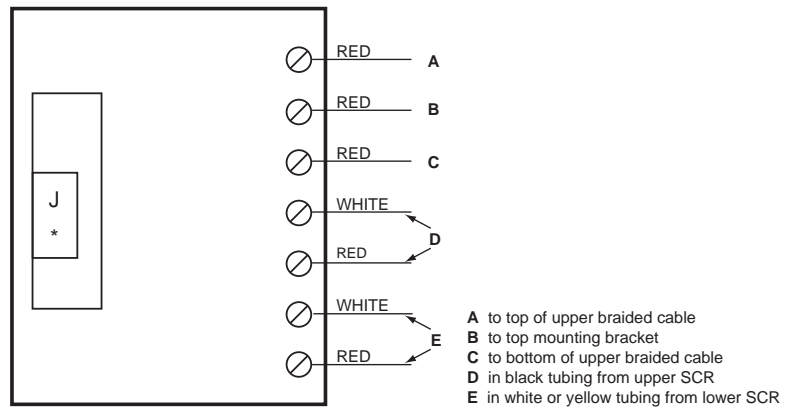

Figure 55: Interface Board Connections
3. Reassemble pole by following step 2, then 1. Tighten the mounting bolts to 40 lb-in (4.5 N•m). In order for the controller to operate properly, the SCR firing circuits must be properly connected. Use Figure 55 on page 75 to identify the location of each wire.